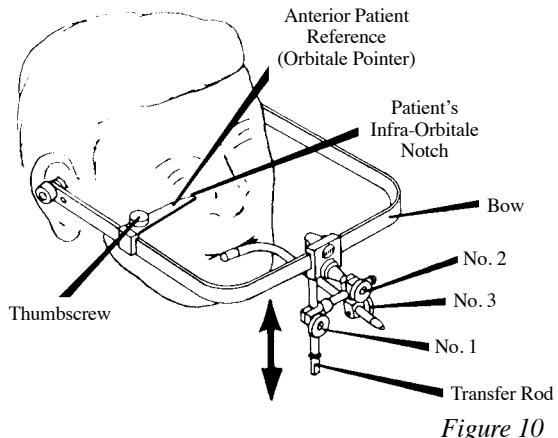

Figure 10
7. Slightly loosen the spring loaded Thumbscrew that secures the Anterior Patient Reference, Figure 10. Carefully rotate this Reference Orbitale Pointer) to a proximity with the patient’s infra-orbitale notch.